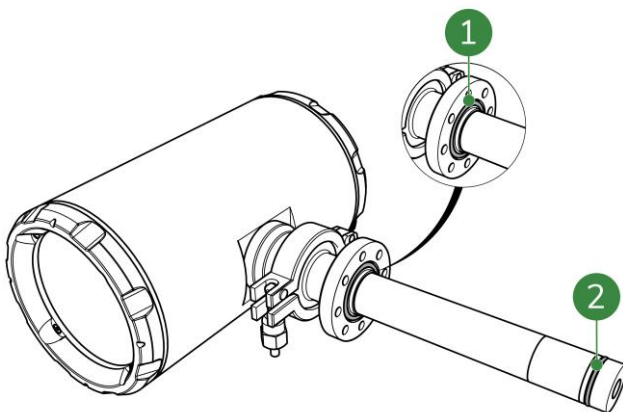

Figure 5-11: O-ring placement
4. Slide the supplied O-ring (Figure 5-11, pos. 1) onto the sensor. Place it against the sensor flange, within the O-ring groove.
5. Slide the supplied O-ring (Figure 5-11, pos. 2) onto the sensor. Place it near the sensor end, within the O-ring groove.